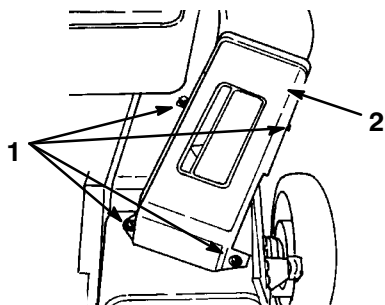

Figure 34
2. Remove and save the four bolts that secure the cover and the deflector assembly to the lawn mower (Fig. 34).